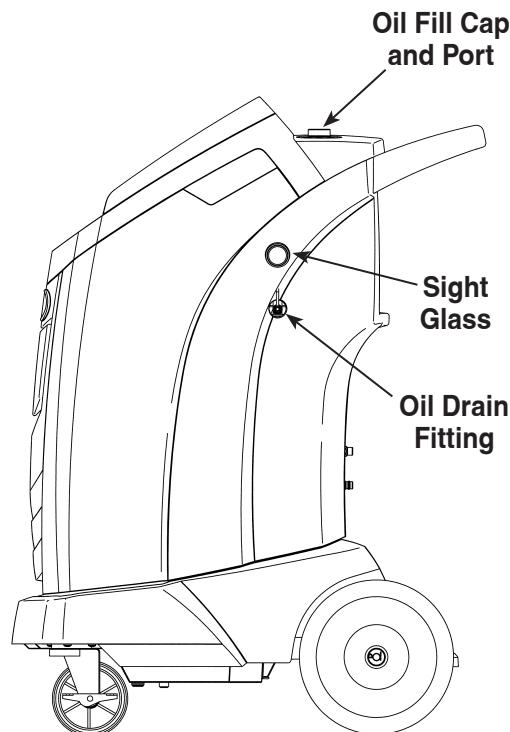

Figure 14
3. **SLOWLY** open the oil fill cap to verify there is no pressure in the machine. Then carefully remove the cap. See Figure 14.